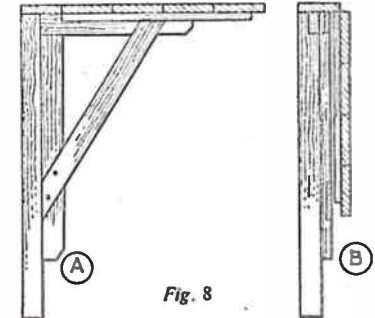

Fig. 8
Assuming that a single-track main-line is used, Figs. 8 and 9 show how a passing loop can be arranged to suit either a one or a two-platform station. To either of these plans the previously-described goods yards can be added with advantage at any one of the situations shown dotted at (A), (B), (C)